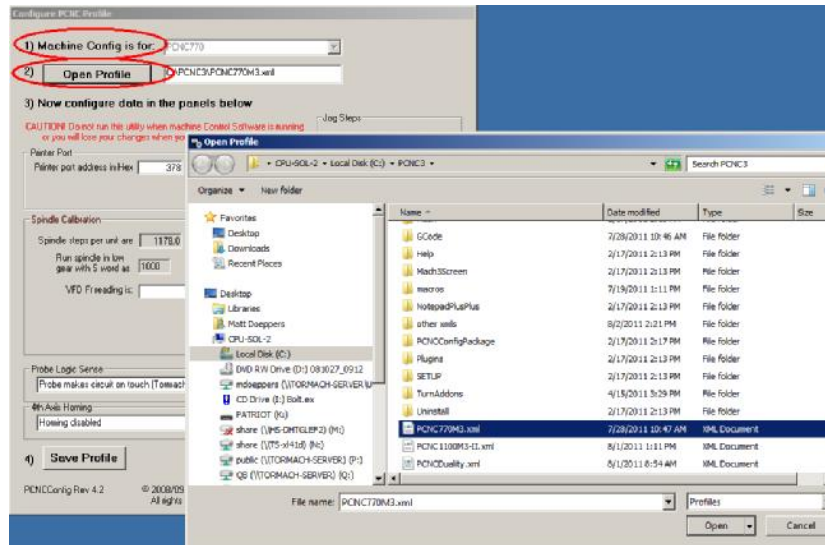

Figure 9.10 – Opening the profile
- Open the PCNCConfig software program located under “Programs” on your “Start” menu. This will have been installed when you installed the control software. Click the pull down menu for line#1 and select “PCNC770”. Click the “Open Profile” button and choose the machine profile you wish to modify (figure 9.10). The profile for the PCNC 770 is: